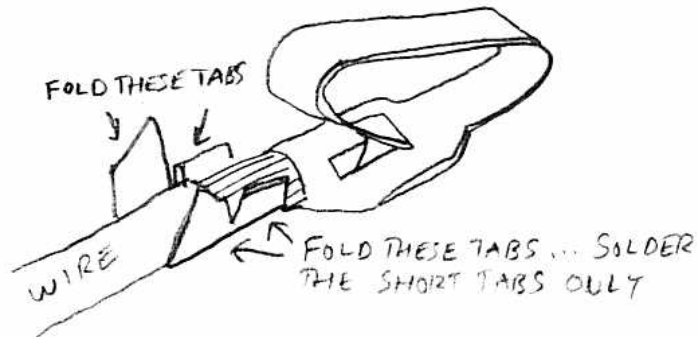

Fig. 2 - Molex Pin Connection
- () Install a Molex pin on the brown wire by folding the short tabs over the conductor, and the longer tabs over the insulation. See Fig. 2.